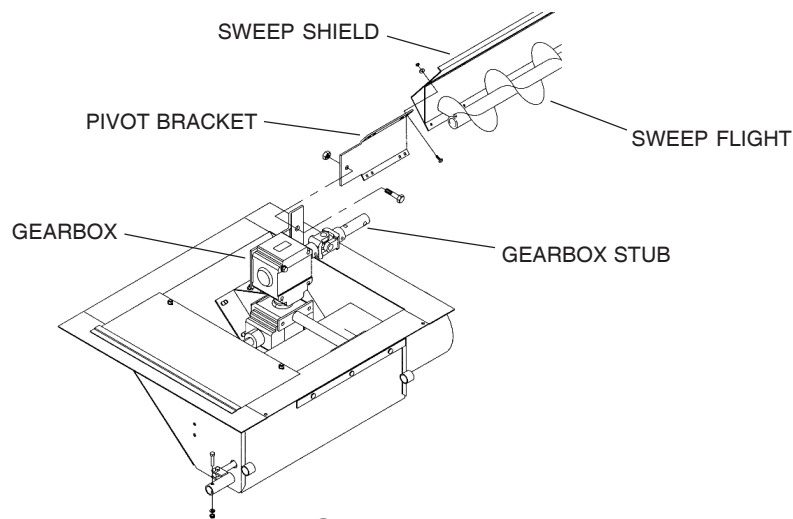

FIG. 22
13. Attach the sweep shields and flight to the center well gearbox (See Fig. 22).
- A. Attach the sweep shield pivot bracket to the bracket mounted on the gearbox using one (1) 5/8 x 1 1/2" bolt and nylon locknut (the pivot bracket will mount to the outside of the gearbox bracket).
- C. Bolt the sweep shield to the pivot bracket using four (4) 3/8" x 1 1/4" carriage bolts, flat washers and nylon locknuts (the bolts will pass through from the auger side).Bolt the sweep flight to the gearbox stub using two (2) 1/2" x 3" bolts and nylon locknuts.